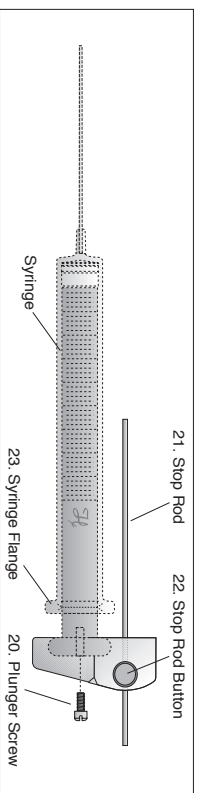

Figure 8
1. Attach the Chaney adapter to the syringe's plunger button with the plunger screw (20) (Figures 8 and 9).